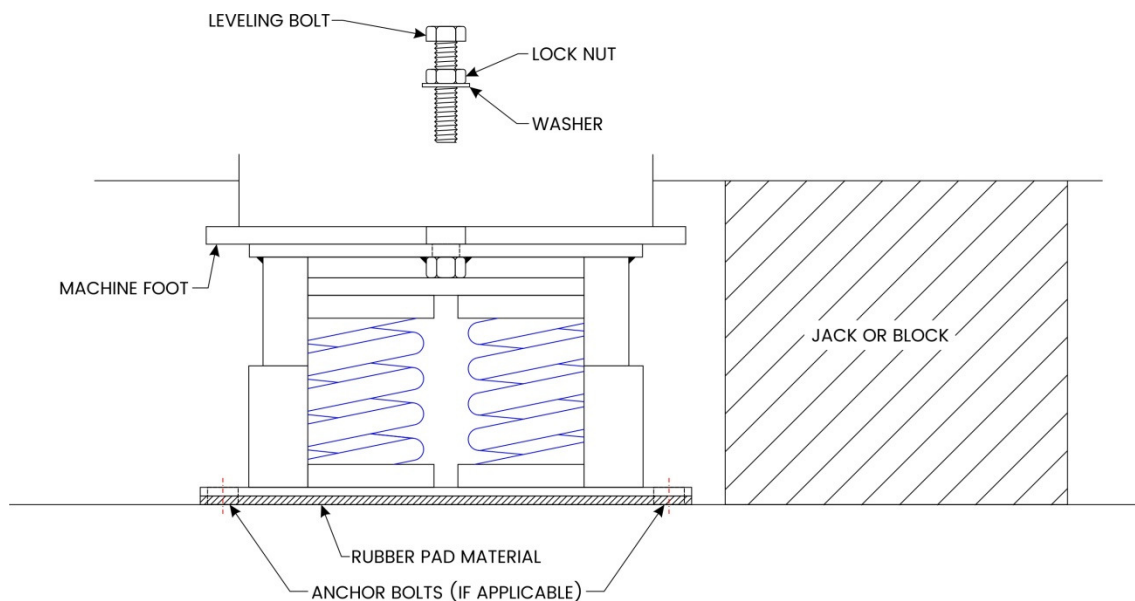

Figure 1
4. After the Vibro/Dynamics Isolators are in position, the machine base should be rough leveled and aligned using jacks or steel blocks and shims at an elevation just above the top of the isolator. (See Figure 1).